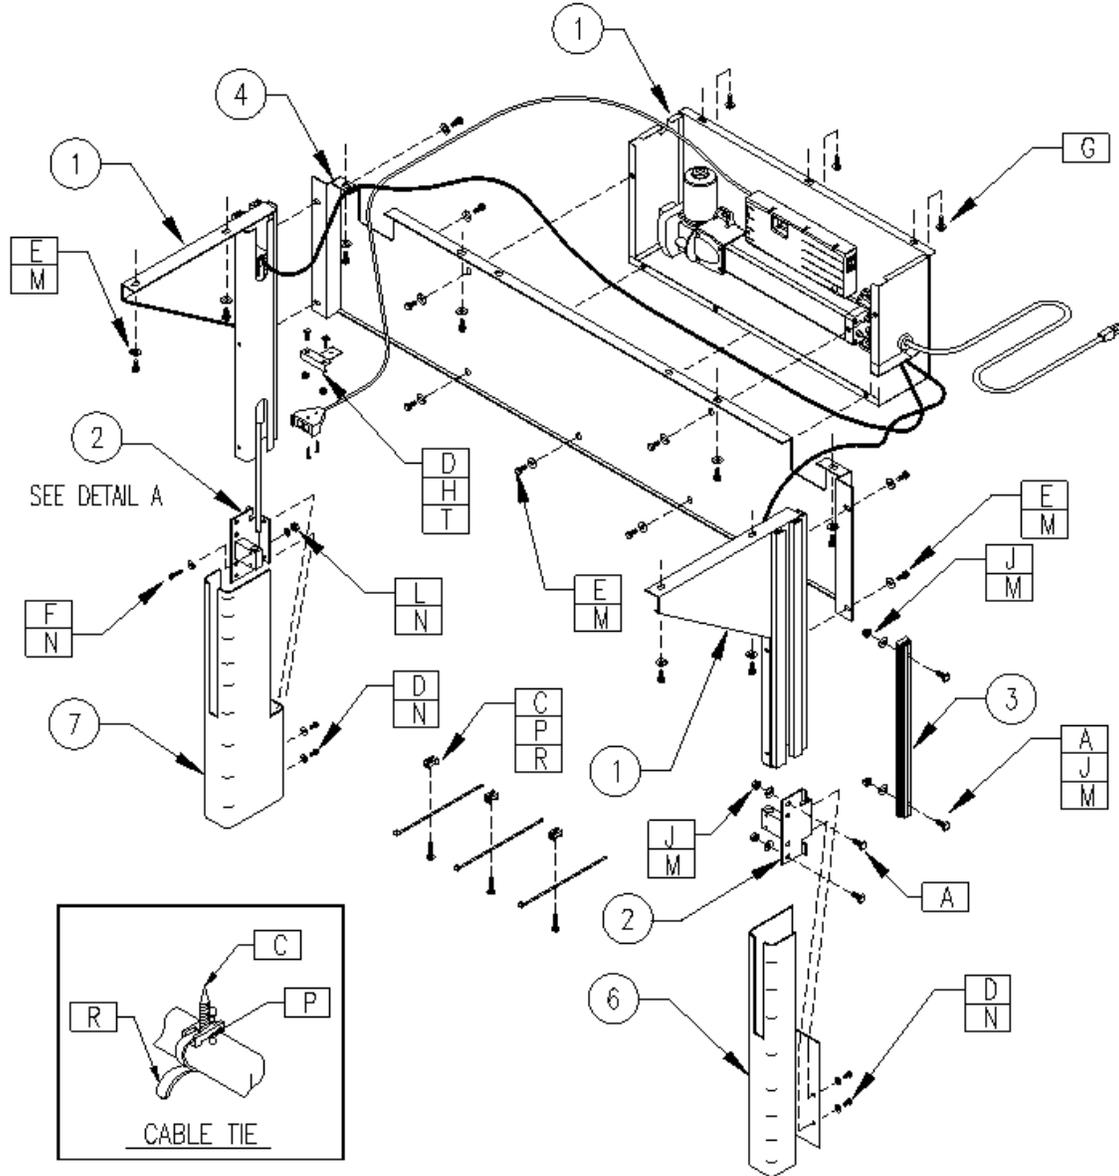
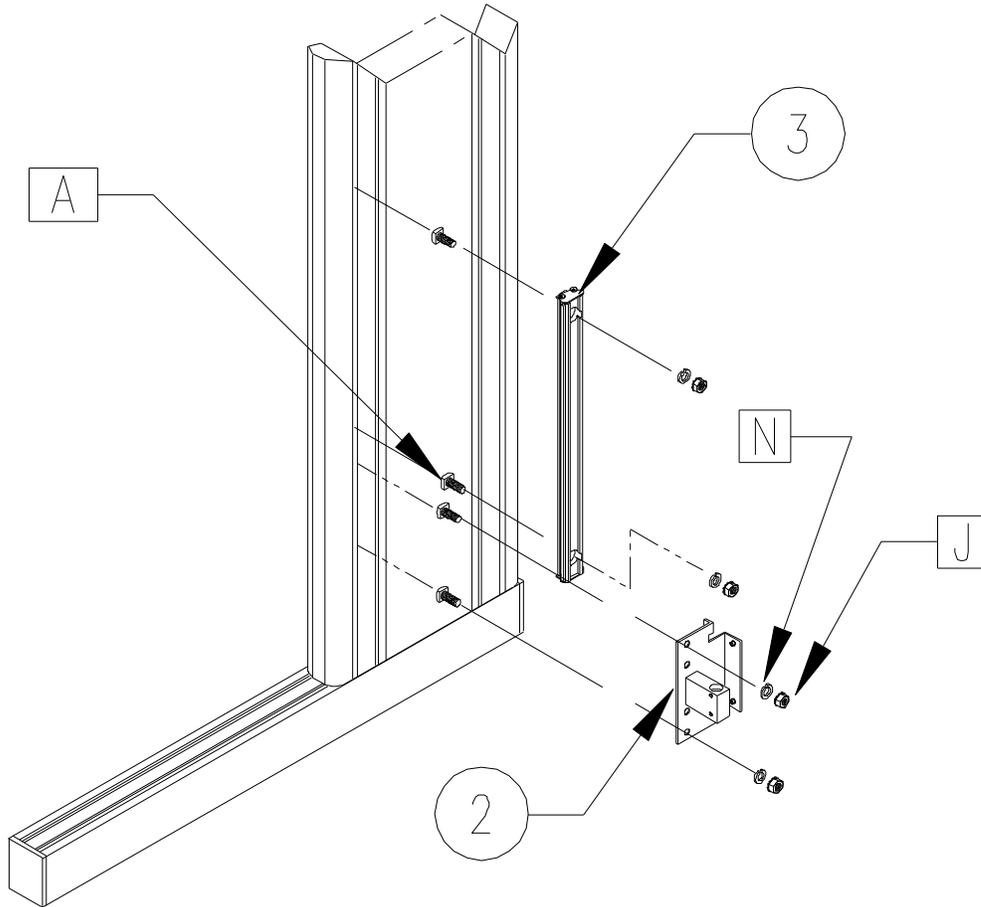

Figure 1
Figure 3
If the bench has a standard or flip-up ergonomic footrest, the footrest brackets need to be installed onto the uprights before mounting the cylinder support brackets shown in figure 3 on page 5, item #2. For footrest assembly instructions refer to the Dimension 4 bench assembly instructions.
STEP 3: The location of the bottom of the cylinder support brackets for a 30" worksurface starting height is 7.5" from the floor. If your starting height is more or less than 30" add or subtract the difference in starting height to or from 7.5" to locate the cylinder support brackets on the uprights. **EXAMPLE:** for a worksurface starting height of 28" subtract 2" from 7.5" and set the brackets at 5.5" from the floor. Attach the cylinder support brackets shown in Figure 3 item #2, to the uprights using 5/16-18 x .75 square head bolts, 1/4 flat washers, and 5/16 hex keps nuts and tighten the nuts. **DO NOT OVER TIGHTEN.**
STEP 4: Remove the extruded guide assemblies, item 3 shown in Figure 3, from the worksurface support assemblies' item 1 shown in Figure 1 on page 3. Attach the extruded guide assemblies to the uprights using 5/16-18 square head bolts, 1/4 flat washers, and 5/16-18 keps nuts. Slide the guide assembly down to the top of the cylinder support bracket and tighten the nuts. **DO NOT OVER TIGHTEN.**